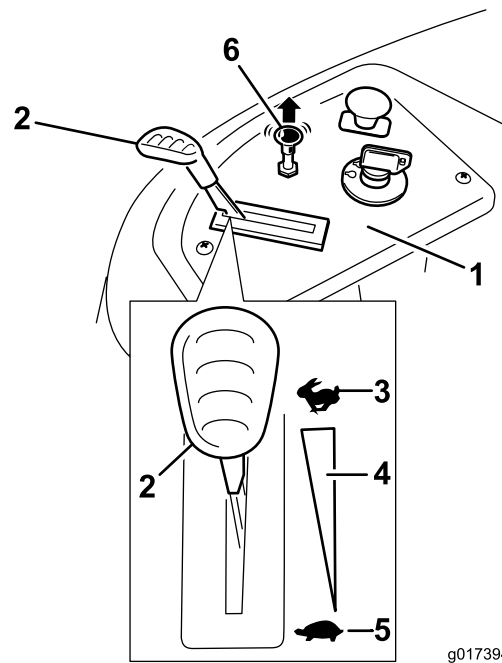

Figure 12
3. Pull up on the Choke control before starting a cold engine (Figure 12).
2. Move the throttle lever to between the Fast position (Figure 12).